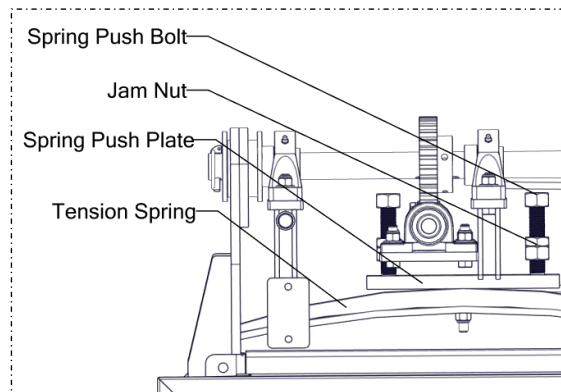

Figure 4.11
***Note: Rolling quality is impacted by three variables: roll speed, spring pressure, and feed rate. If grain quality is good at low feed rates, but decreases quickly as feed rate increases, the spring pressure may be too low. To increase pressure, loosen the jam nuts and turn the spring push bolts (Figure 4.11) inward a 1/2 turn at a time. Keep the pressure even on both bolts (if applicable). In difficult cases, reducing the feed rate is one more way to control feed quality.***